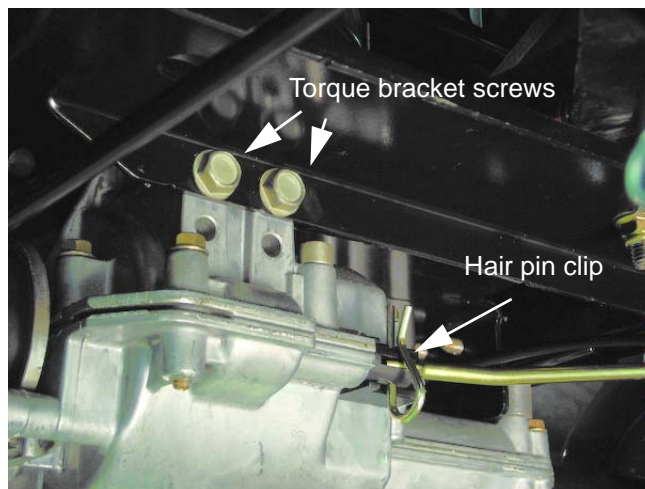

Figure 5.55
5. Disconnect the forward-neutral-reverse gear selector rod from the transmission by removing the hair pin clip. See Figure 5.55.
7. Remove the two torque bracket hex screws using a 1/2" wrench. See Figure 5.55.